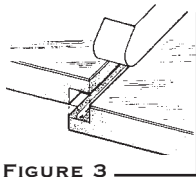

FIGURE 3
2. Fit next THERMAX™ board firmly into the sealant-lined shi lap edge and fasten (Figure 3).